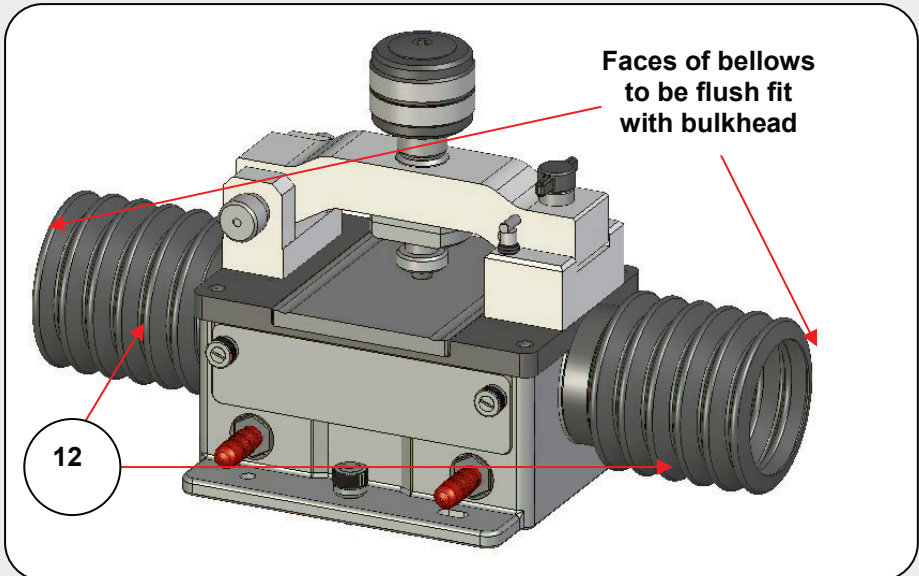

Figure 9. Silver Gate™ ATR Accessory – Optical Unit with Bridge and Clamp Anvil Assembly, Flat ATR Crystal Top Plate Assembly and Purge Bellows
To enable the optical unit to be purged it is necessary to fit the flexible purge bellows (12) to the optical unit at the aperture ports (10). (See Figure 9.) The purge bellows grip fit around the circumference of the aperture ports and bridge any gap between the optical unit and the spectrometer sample compartment bulkheads from the source and to the detector. If the gap/distance between the optical unit and bulkhead is small, the purge bellows can be cut to size. It is best to cut all the way around and in between one of the ridged grooves in the bellow moulding itself.
The bridge and clamp anvil assembly (15) carries a quick lock/release screw mechanism (18). In operation for sampling with **solids** using either the flat or recessed ATR crystal top plate assembly, the bridge must be closed (see Figure 9). The T-shaped quick lock/release knob (18) is pushed down and turned clockwise 90° to engage and lock the bridge closed. To release the bridge, the T-shaped knob (18) is pushed down and turned anti-clockwise 90°.